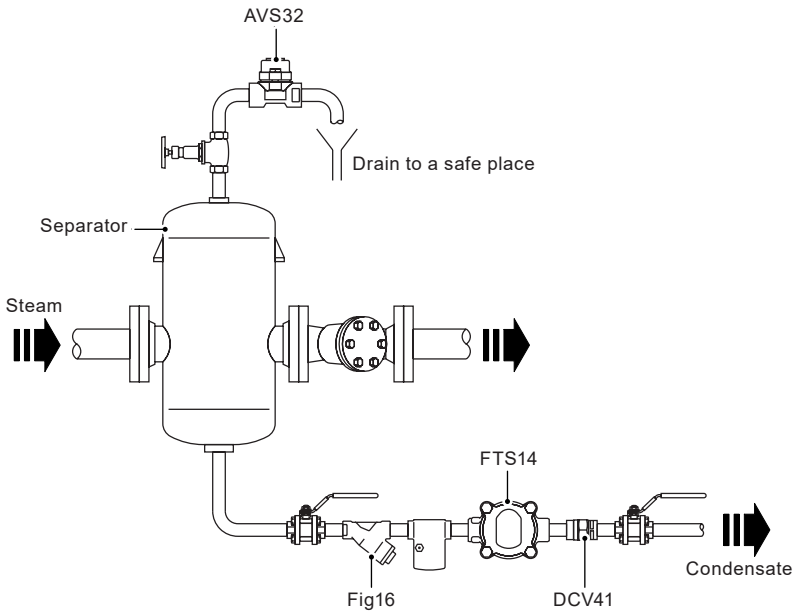

Fig. 2
- 3.4 The AVS32 should be installed with the capsule in a horizontal plane with the cap at the top, and be positioned at the highest point of the main, or plant where the air collects. For maximum removal of air the discharge should be as free as possible, piped to a safe location (see Figure 2).